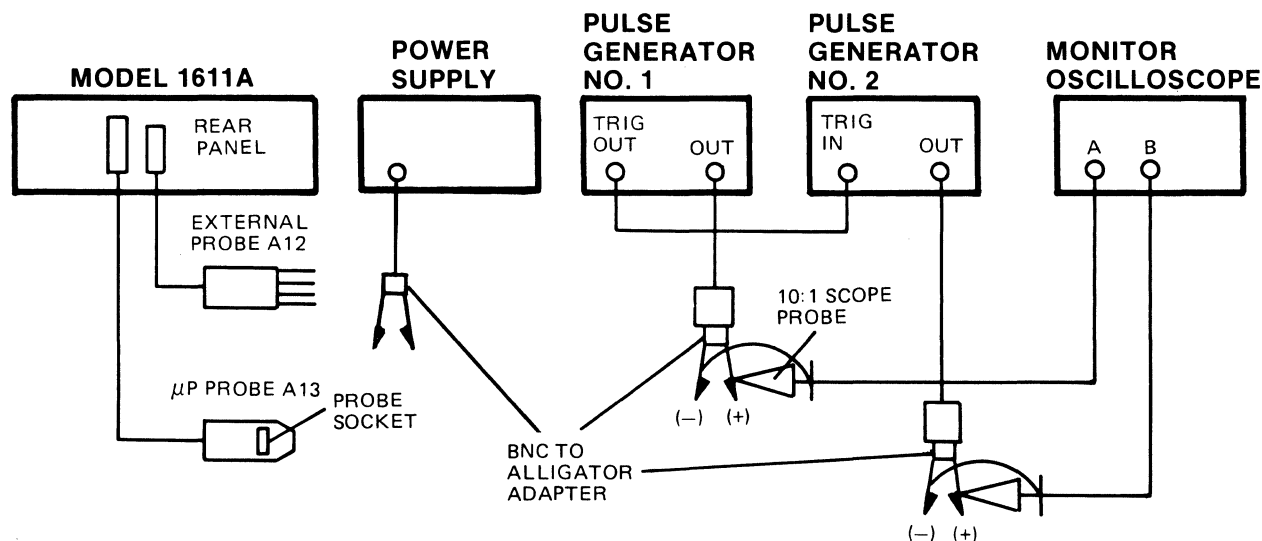

Figure 4-12. Data Lines Test Setup
- Connect test equipment as shown in figure 4-12.